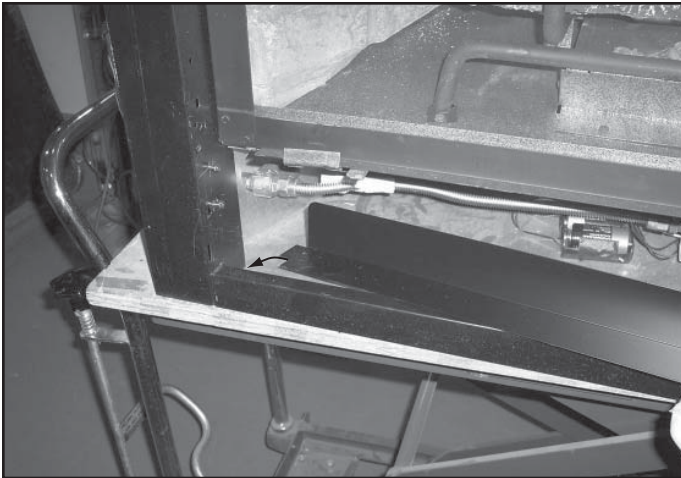

Figure 14.13 Installing Floor Cover
- Install floor cover. See Figure 14.13. Floor cover must be installed with brake flange UP and going towards components with notched end to the left of the unit. Do not place cover on top of any components. Move components back if necessary.